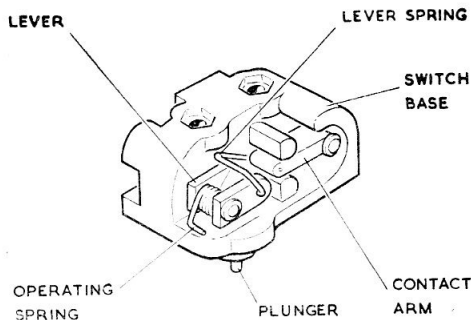

Fig. 1. General view of limit switch
1. Limit switches, Type N99078/2 and /3, are snap action type switches fitted to certain linear actuators to limit the ram travel. Type N99078/2 and /3 supersede the earlier type N90078 (Ref. No. 5CW/5023) and N.99078/1 (Ref. No. 5CW/5024) respectively; each pair provides for opposite 'handing'. A general view of the switch is given in fig. 1.
3. Two inserts act as fulcrum pins, one for the bakelite lever and return spring, and the other for the movable elkonite contact arm. Two other inserts act as fixed contacts, and are situated at either side of the moving contact arm. A stainless steel spring, located between the bakelite lever and the movable contact arm, actuates the latter as shown in fig. 1.